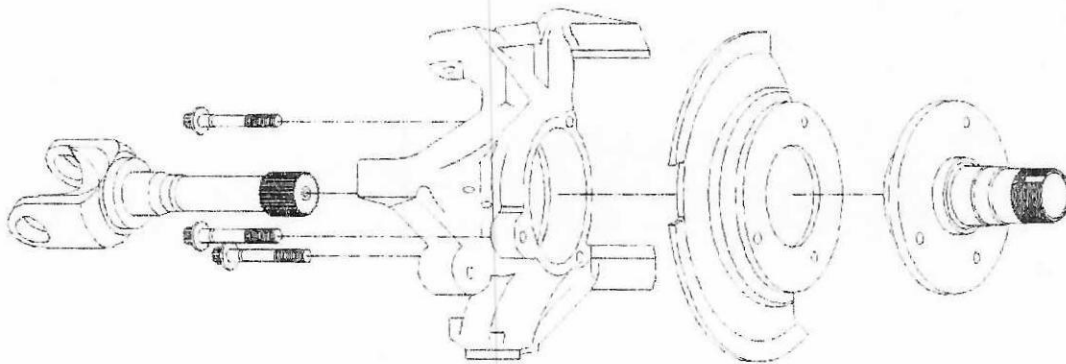

Figure 4. Exploded knuckle
7. Remove 3 bolts retaining the original hub (using 13mm 12pt socket) and bearing assembly. Do not disassemble the bearing assembly from axle shaft. See figure 4. (For location reference only)
8. Remove axle shafts, brake shield, hub and bearing pack. See Figure 4. (For
16. Place spindle over outer axle shaft and bolt on to steering knuckle. Torque 3 bolt to 75 ft. lbs. See Figure 4.